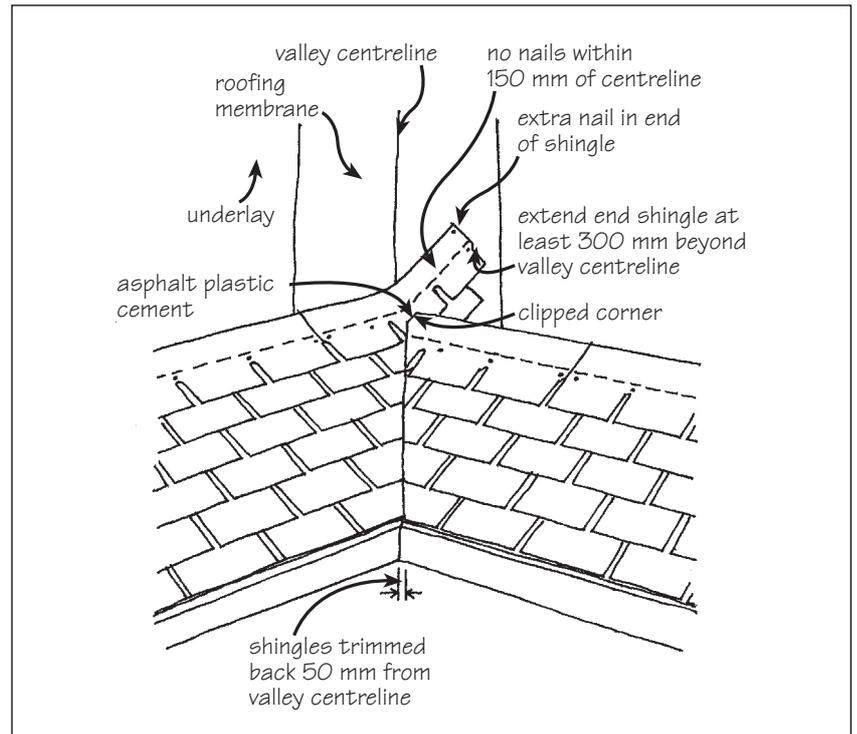

Figure 5a: Closed, cut valley.
3.8.1 Valleys may be formed using corrosion-resistant or protected metal, or asphalt-compatible roofing membrane in the traditional manner. However, because asphalt shingles are flexible, valleys can be formed by interleaving the shingles to form a closed cut or woven valley. Always install an impervious material such as butyl rubber sheet behind the shingles (see Figures 5a & 5b).